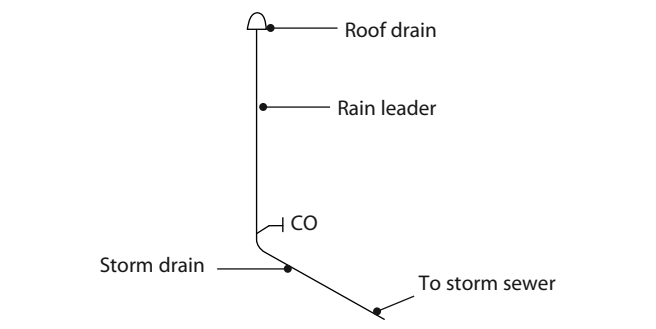

Figure 5-13
- 5) Rain leaders require a cleanout (Figure 5-13).